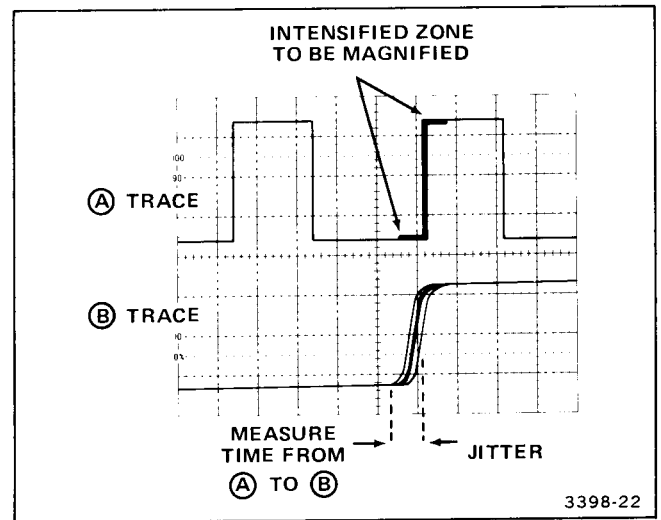

Figure 4-12. Pulse jitter.
2. Referring to Figure 4-12, measure the difference between Point A and Point B in divisions and calculate the pulse jitter time using the following formula: